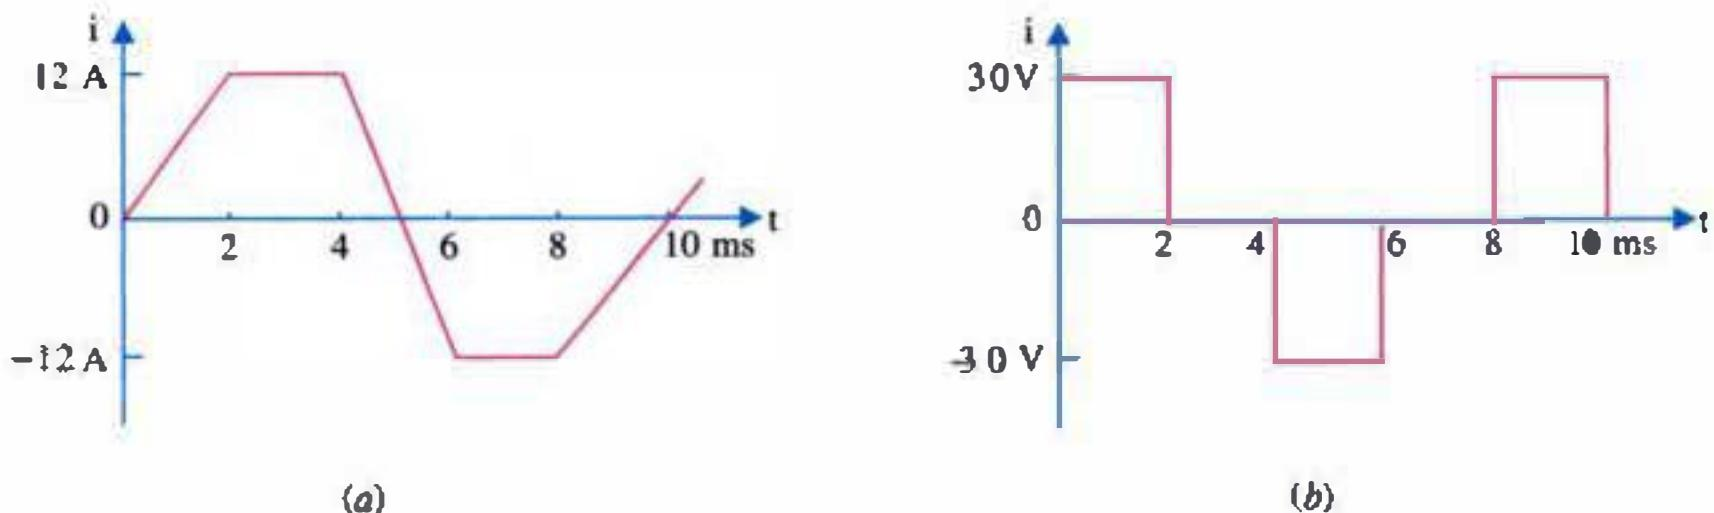

Fig. 8.26
**Example 8.8.** A non-sinusoidal current having the waveform shown in Fig. 8.26 is passed through a pure inductance of 5 mH. Sketch the voltage waveform  $v(t)$ .